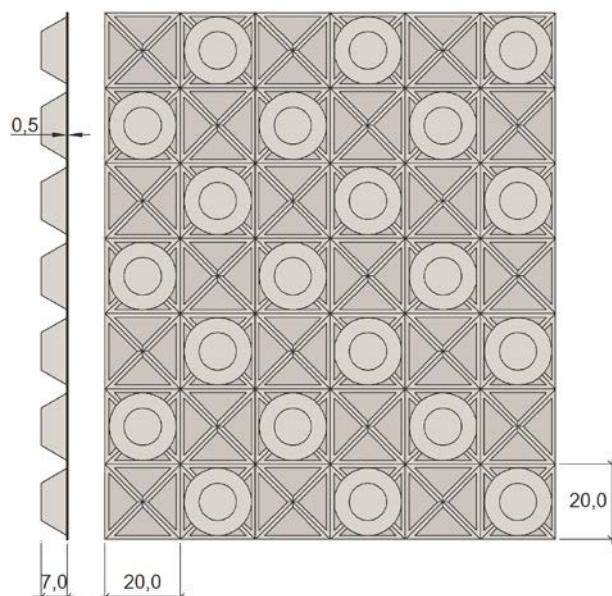

Fig 1
The membrane is produced of polypropylene (PP) with a density of 900 – 920 kg/m³ and has a nominal thickness of 0.5 mm. Icopal Fonda Universal is made with studs and a pattern of intersecting channels forming a 7 mm air gap between the sheet and the underlying surface, see fig. 1. The membrane has flat jointing flanges on each side. Measures and tolerances are shown in table 1.